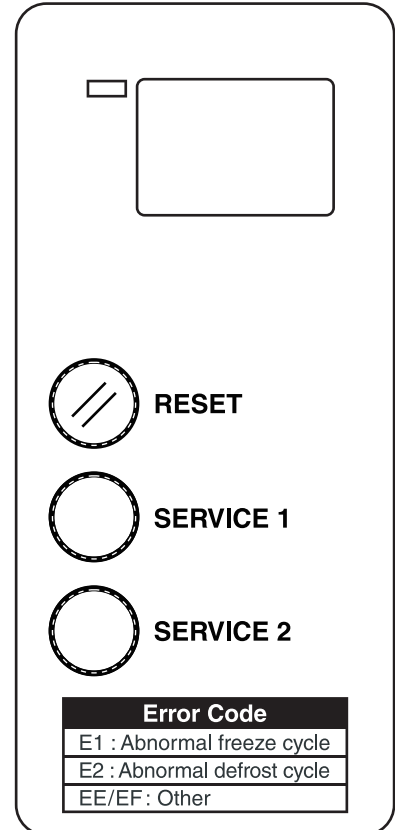

Fig. 8
- 7) Press the "RESET" button. See Fig. 8. The water tank will start to open.